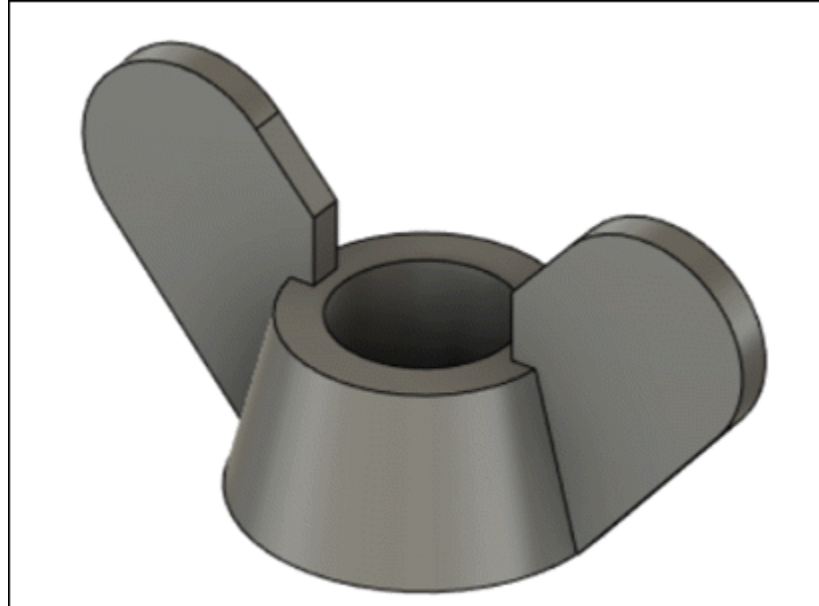

Figure-107. Wing after mirror copy
- After creating wing of one side, create its mirror copy on other side of YZ plane; refer to Figure-107.